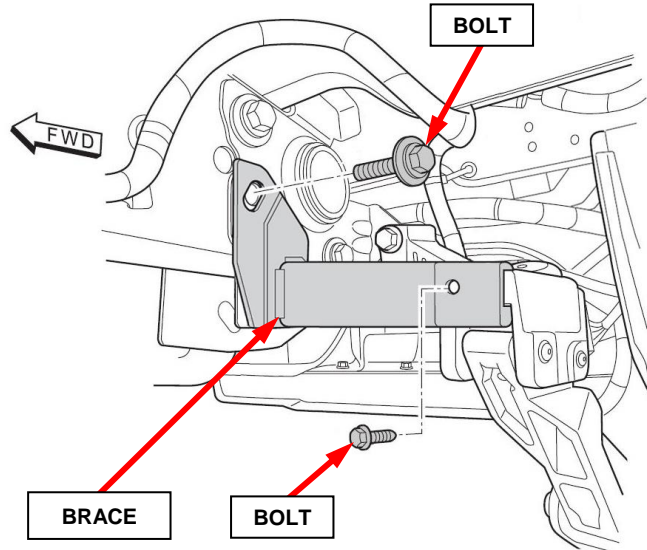

Figure 3 – New Bed Step Brace
5. Install the **NEW** bed step brace (Figure 3).
6. Loose install the **NEW** M8 bolt then the **NEW** M16 bolt included in the campaign kit (Figure 3).